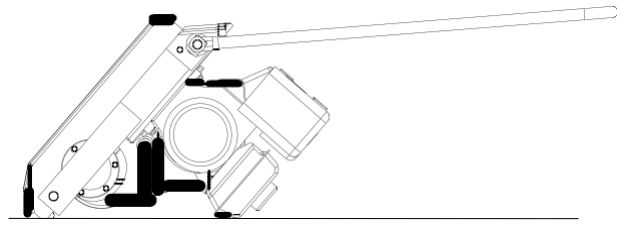

Figure 3.
5. Tilt plate forward so the oil drains from the exciter housing into a pan as shown in Figure 3.